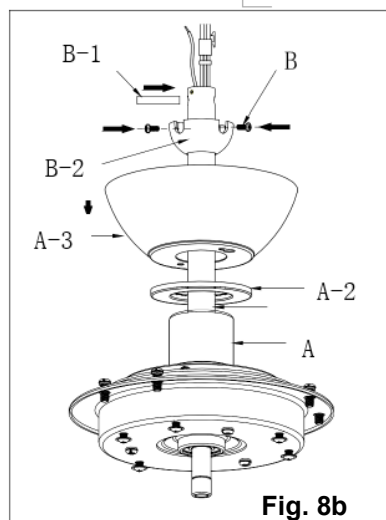

Fig. 8b
- Insert the canopy (A-3) over the down rod (A-4) and install the ball joint (B-2) and dowel pin (B-1) back onto the down rod (A-4) and secure by tightening the set screws (B). **(Fig. 8b)**